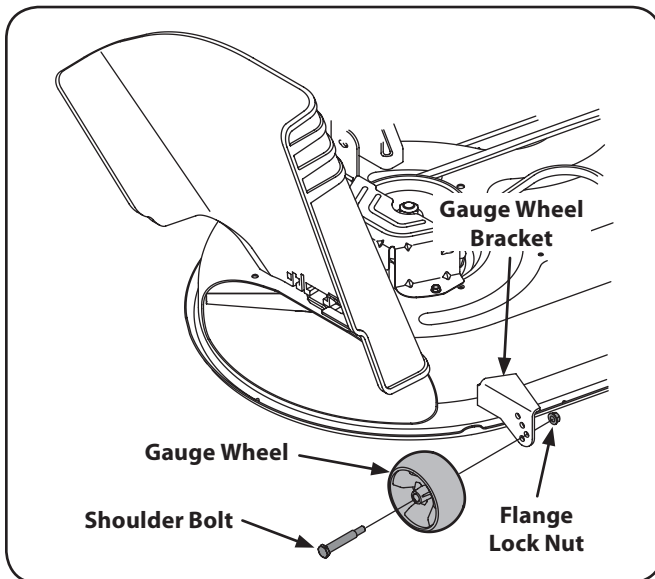

Figure 6-7
2. Remove the flange lock nut securing the front gauge wheel shoulder bolt to the deck. Remove the gauge wheel and shoulder bolt. Refer to Fig. 6-7.